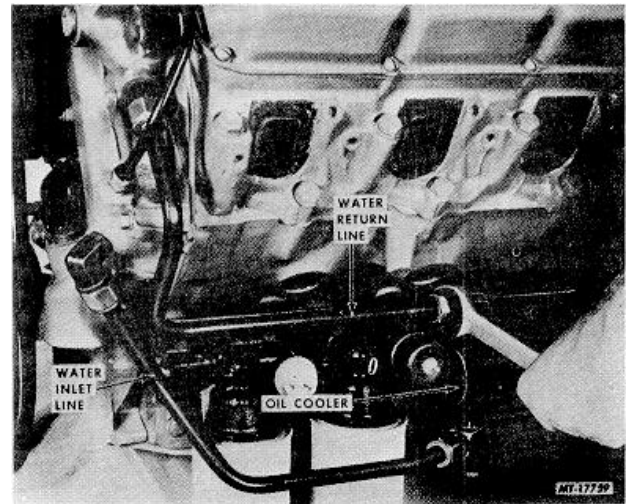

Fig. 10 Oil Cooler Water Lines
- c. Remove oil cooler water inlet and return lines (Figure 10).